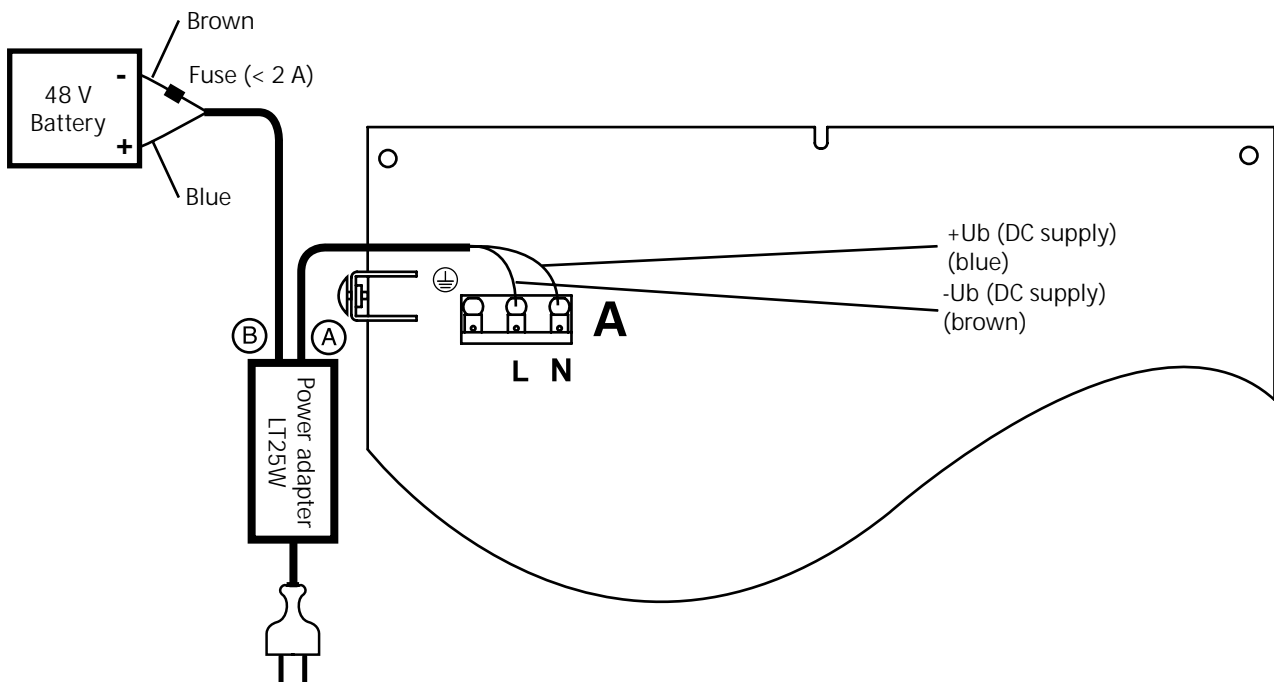

Fig. 2.173 Connecting the battery to desktop power adapter LT25W
8. Connect the battery (Fig. 2.173)